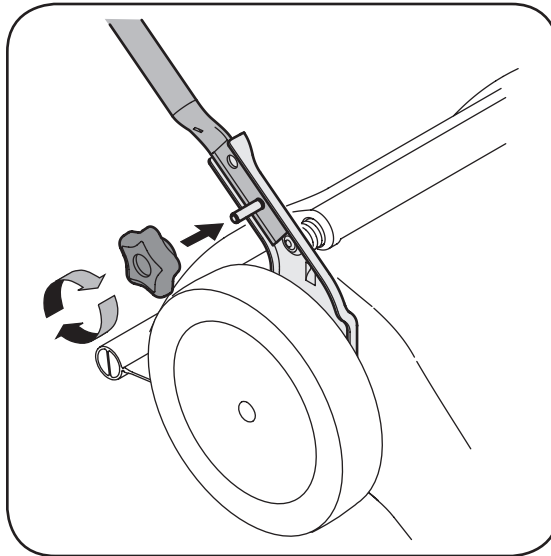

Figure 3-2: Secure lower handle to mounting brackets.
2. Tighten star knobs securing lower handle to handle brackets. See Figure 3-2. Make certain the lower handle is seated securely into the handle mounting brackets.